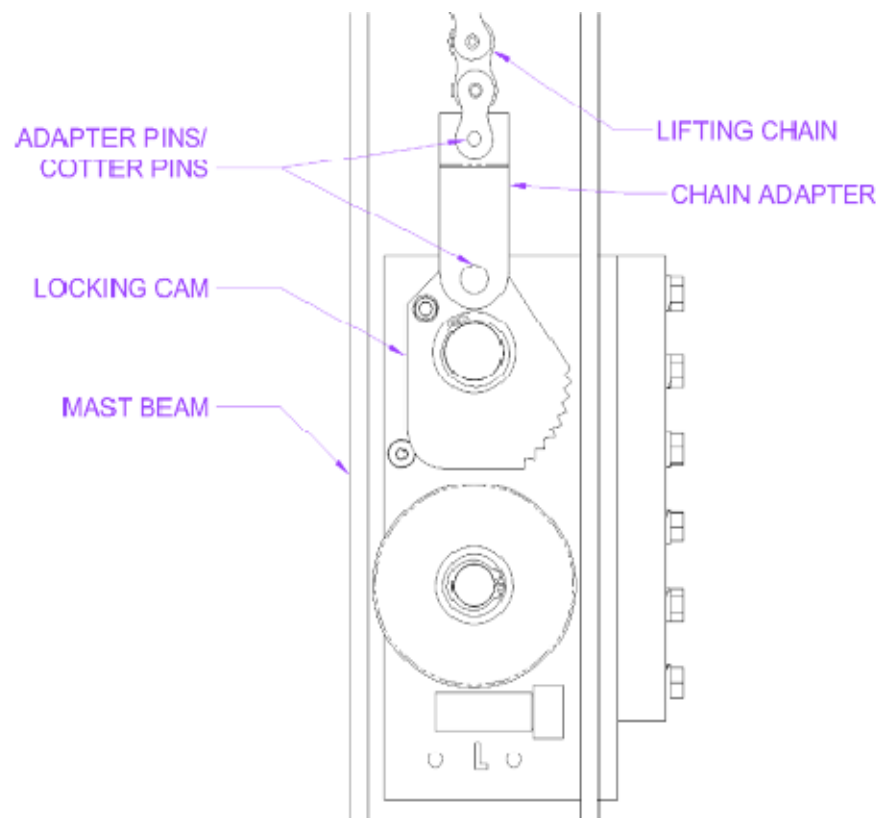

Figure 19b Upper Wheel Guide Assembly in Mast Beam (Side View)
1. Attach the chain adaptors to the wheel guide locking cams using the high strength adaptor pins and cotter pins provided as shown in **Figure 19b**.